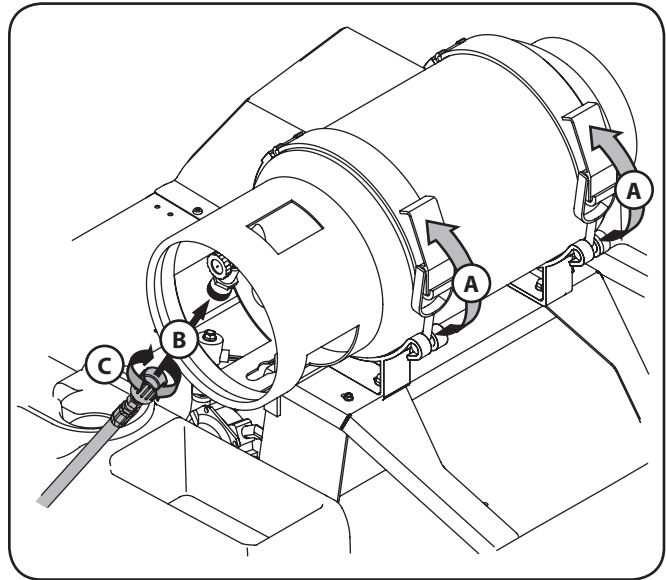

Figure 3-8
2. When the tank is in place, secure it by locking down the straps (A). See Fig. 3-8.
3. Install the regulator hose on the LPG tank fuel valve (B) and secure it by twisting it counter-clockwise (C). See Fig. 3-8.